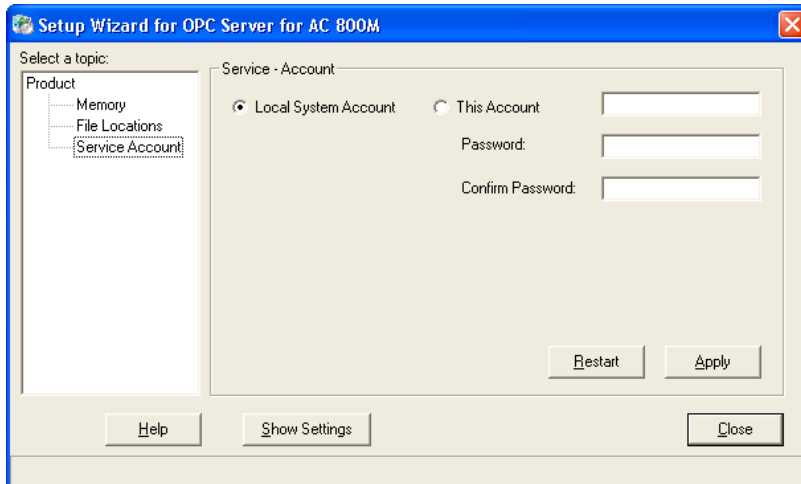

Figure 76. The Service Account Topic for OPC server.
- If *Local System Account* (see Figure 76) has been selected previously in the Setup Wizard, only members of MyTeam group should login to the PC machine, or the OPC Server is interrupted.
- If *This Account* (see Figure 76) has been selected previously in the Setup Wizard, any user including an operator can login to the PC machine without interrupting the OPC Server traffic.